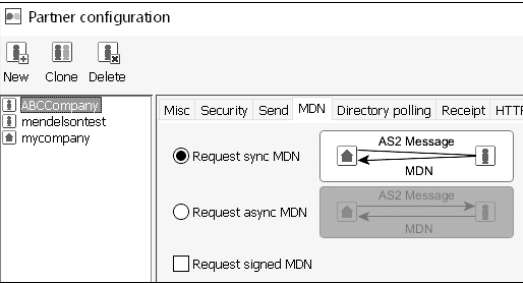

Figure 7.35 MDN Configuration in Mendelson
- In the **MDN** tab, select **Request sync MDN**, as shown in Figure 7.35.